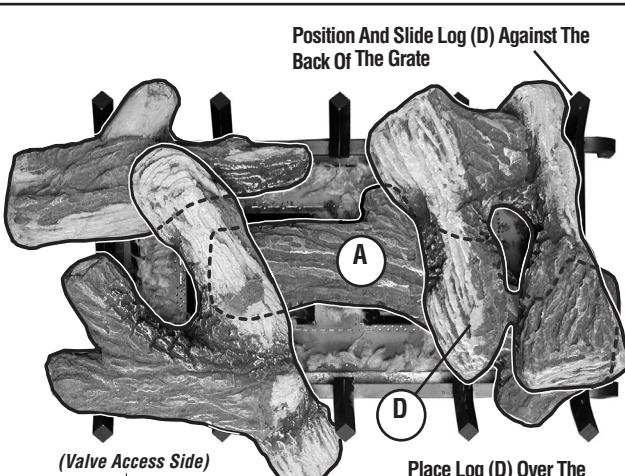

Figure 74
9. Place Log (D) as shown in **Figure 74**.